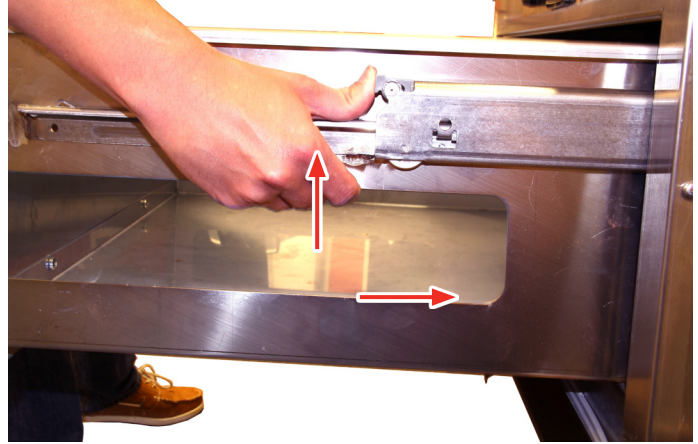

Fig. 22
3. Reopen the drawer and pull outward until it stops. Push the drawer lock upward while simultaneously towards the back of drawer to lock the drawer in place (Fig. 22).